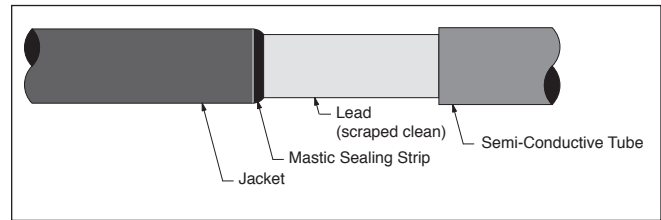

Figure 15
- 6.1 Apply a mastic sealing strip at edge of PILC cable jacket, forming a seal to the cable lead (*Figure 15*).